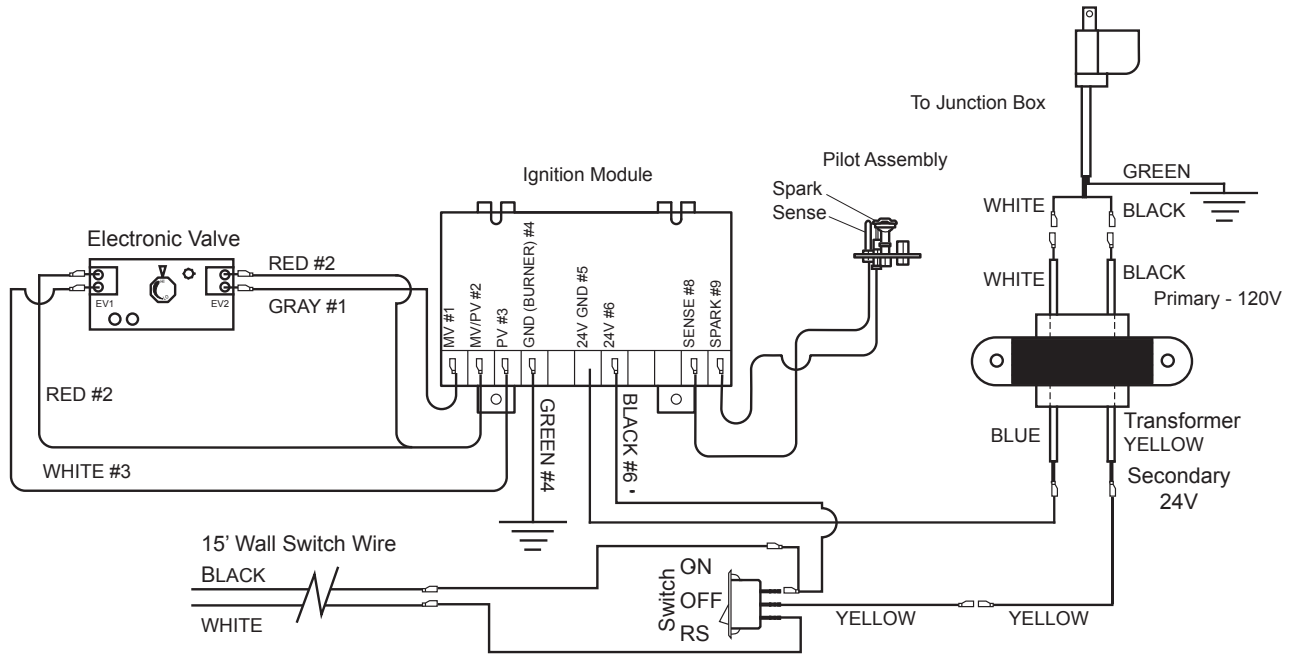

Figure 43 - Remote Wall Switch Wiring Diagram
2. Connect the wire terminal from the remote receiver. This replaces the 15' wall switch connection to the switch. *Figure 43*